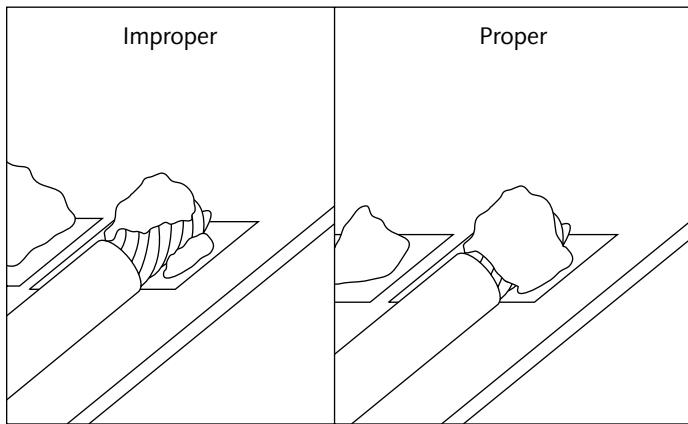

FIGURE 2-6: Improperly covered wire and properly covered wire.
- When connecting wire, especially stranded wire, make sure that the solder completely surrounds it (Figure 2-6). This is where solder sticking to solder comes in handy, because the solder should "form around" the wire and connect to the existing solder below.